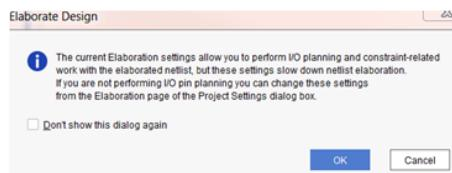

Figure 30: Elaborated Design Popup
- A dialog box will open with details about the Elaborated design (Figure 30). Press OK.